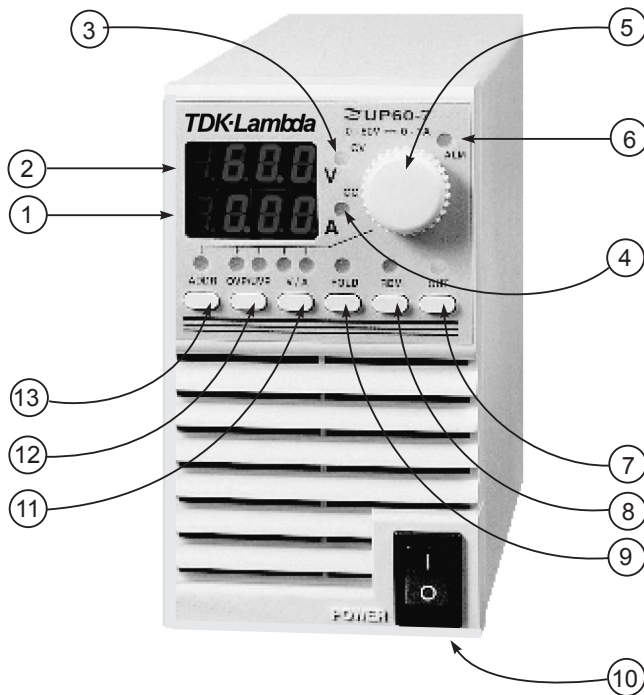

Fig. 4-1: Front panel controls and indicators
The REM LED on the front panel indicates whether the power supply is in Local or Remote mode. The extinguished LED indicates Local operation. If the LED illuminates, the REM pushbutton (fig. 4-1, item 8), should be pressed to change the operating mode to Local.